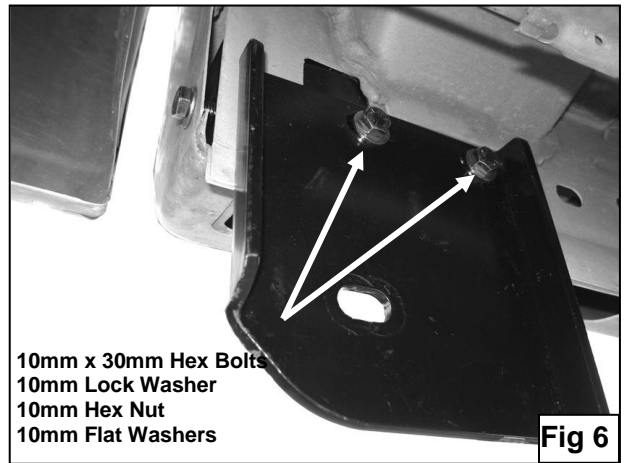

Fig 6
6. Loosely attach driver side rear Mounting Bracket to already inserted rear Support Bracket using the included (2) 10mm x 30mm Hex Head Bolts, (2) 10mm Lock Washers, (2) 10mm Hex Nuts, and (4) 10mm Flat Washers (**Figure 6**). **NOTE:** Make sure that the 90° bends on the rear Mounting Bracket are facing the inside of the vehicle when installed.